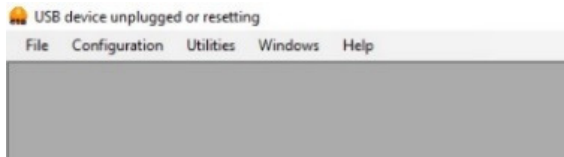

Fig 1. No Live Image Window and phrase "USB device unplugged or resetting" is shown.
1. One of the following messages in the upper left corner of Lumaview is observed (Figs 1 & 2).